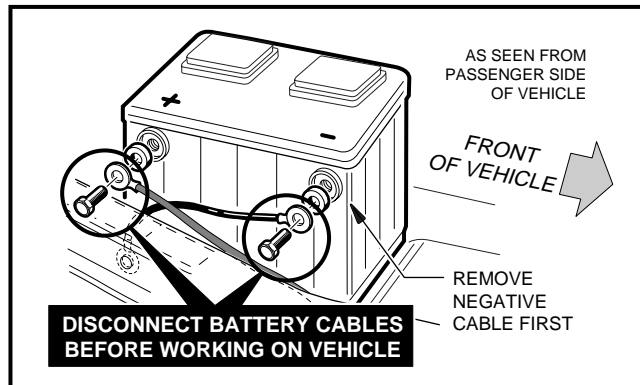
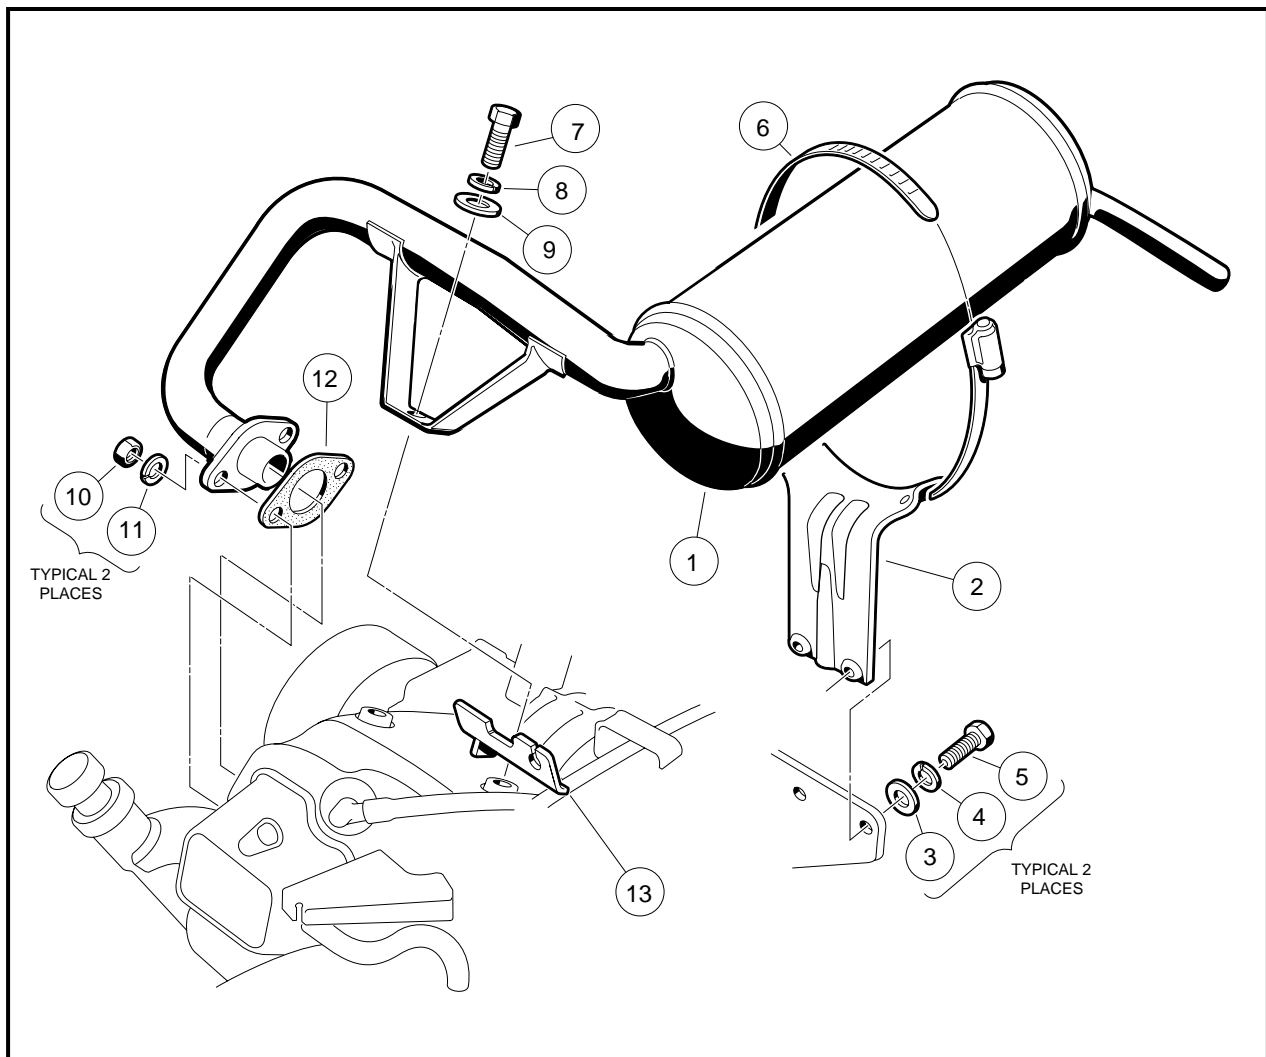

Figure 15-1 FE350 Battery
Figure 15-2 Exhaust System
1. Disconnect the battery cables, negative (–) cable first (**Figure 15-1, Page 15-2**).
3. Remove the hex nuts (10) and lock washers (11) (**Figure 15-2, Page 15-3**).
4. Remove the hex head cap screw (7), lock washer (8), and flat washer (9).
5. Remove the retaining bolts (5), lock washers (4), and flat washers (3) from the muffler bracket (2).
6. Remove the muffler (1) and bracket assembly (2) from the vehicle.
7. Remove the muffler clamp (6) from the muffler bracket (2).
NOTE: Any time the muffler is removed from the vehicle, install a new muffler clamp (6) (CCI 1017689) and muffler gasket (**Figure 15-2, Page 15-3**).
1. Use the muffler clamp (6) to attach the muffler bracket (2) to the muffler as shown (**Figure 15-2, Page 15-3**). Leave the muffler clamp loose enough to allow the muffler to move as the mounting hardware is tightened. If installing a new muffler, use the old muffler as a positioning guide for the clamp and bracket.
2. Place a new gasket (12) on the exhaust manifold mounting flange as shown.
3. Position the muffler and bracket assembly, and the governor cable bracket (13) and install the bolts (5), lock washers (4), and flat washers (3). Thread the bolts in only enough to support the muffler and bracket assembly. Do not tighten them.
4. Install the hex nuts (10) and lock washers (11). Tighten the nuts fingertight.
5. Install the hex head cap screw (7), lock washer (8), and flat washer (9). Tighten the cap screw fingertight.
6. Tighten the hex nuts (10) to 11 ft-lb (14.9 N·m).
7. Tighten the hex cap screw (7) to 14 ft-lb (18.9 N·m).
8. Tighten the muffler clamp (6) to 40 in-lb (4.5 N·m).
9. Tighten the muffler bracket mounting bolts (5) to 75 in-lb (8.5 N·m).
11. Connect battery cables, positive (+) first and tighten terminals to 20 ft-lb (27.1 N·m) (**Figure 15-1, Page 15-2**). Coat terminals with Battery Protector Spray (CCI 1014305).